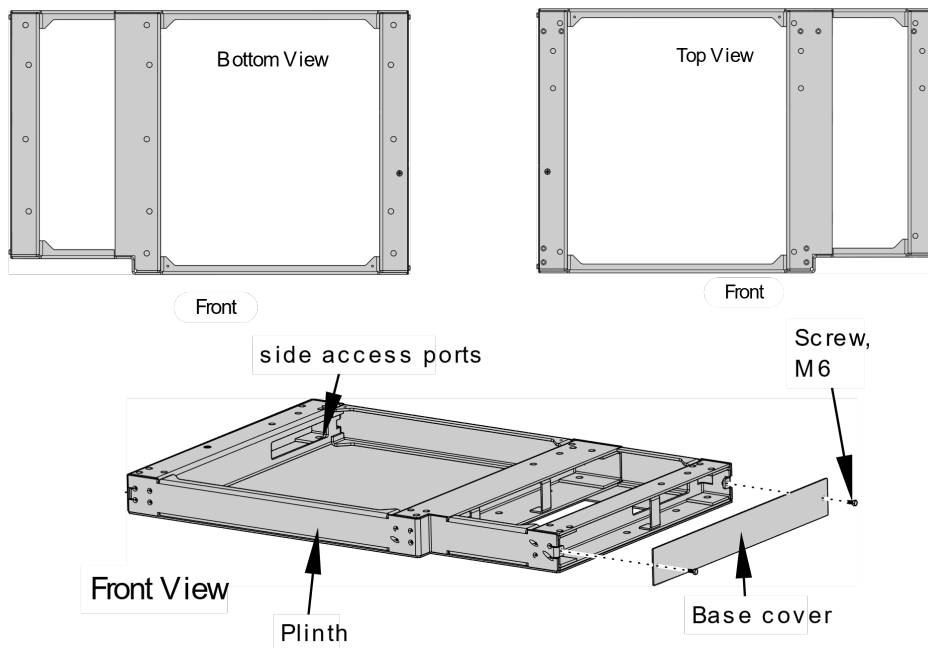

Figure 22. Plinth Mounting Footprint, Bottom and Top Views, MSO AIO Cabinet
- For cabinet with plinth, see Figure 22 to mount cabinet to pad.